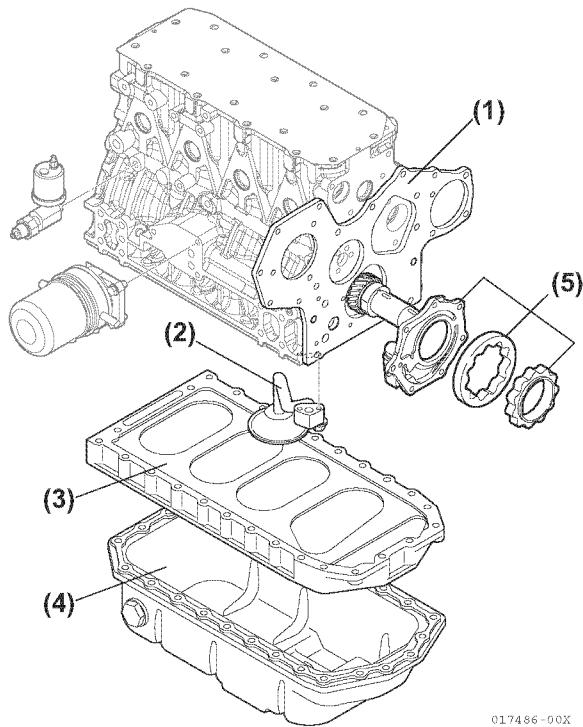

Figure 5-46
38. Remove the oil pan and spacer (**Figure 5-46**).
39. Remove the lubricating oil inlet line and gasket (Figure 5-46).